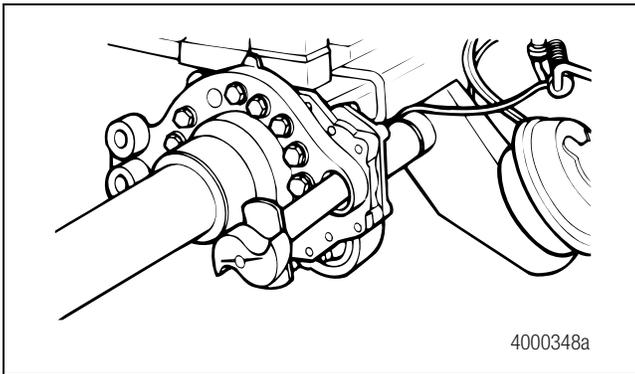

Figure 4.13
5. Place the cam head washer onto the camshaft. Apply Meritor specification O-617-A or O-617-B chassis grease to the camshaft bushings and journals. Install the camshaft through the spider and bracket. The camshaft should turn freely by hand. Figure 4.13.